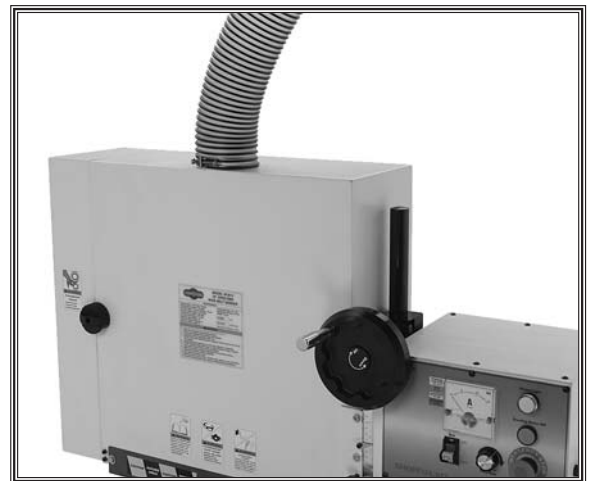

Figure 13. Dust hose connected to dust port.
1. Fit a 4" dust hose over the dust port on top of the machine, as shown in **Figure 13**, and secure it in place with a hose clamp.